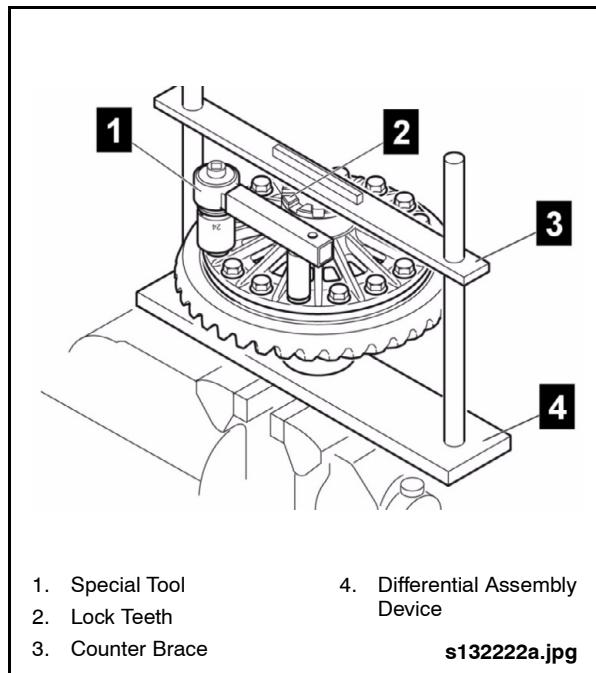

Fig. 2-67: Installing Special Tool
6. Install special tightening tool onto mounting bolts. *See "Fig. 2-67: Installing Special Tool" on page 56.*